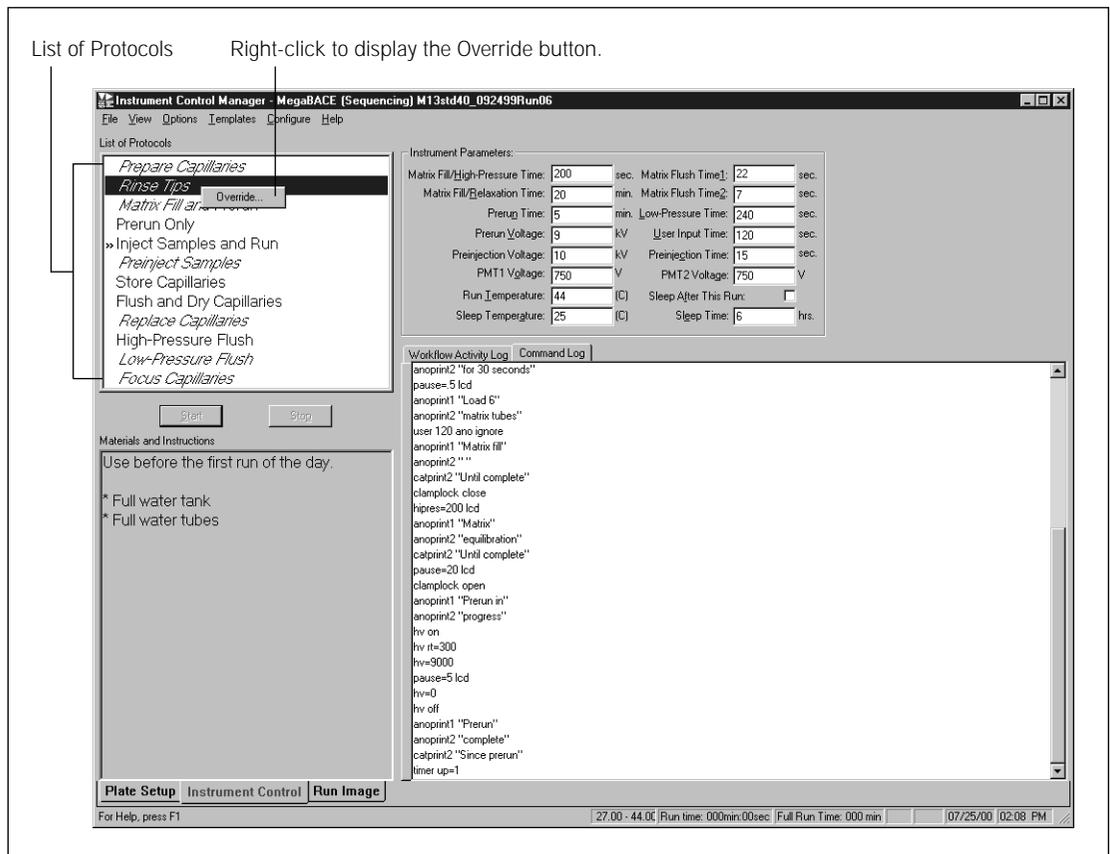

Figure 7-1. The List of Protocols in the Instrument Control window.
In a typical operation, the software selects the next protocol in the workflow. You may need to use a protocol that is different from the one selected in the List of Protocols in the Instrument Control window (figure 7-1).
1. In the Instrument Control window, select the protocol you want to run, and click the **right mouse button**. The Override button appears (figure 7-1).
4. Click **OK** to run all the commands for the selected protocol. The window closes. In the Instrument Control window (figure 7-1), the selected protocol flashes to show that it is running.
1. With the protocol selected, click the **right mouse button**. The Override button appears (figure 7-1).
In the Instrument Control window (figure 7-1), the selected protocol flashes to show that it is running.